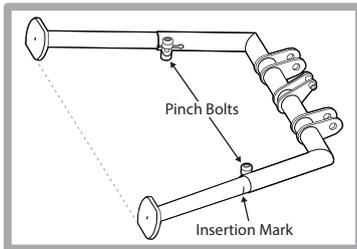

Figure 1
1. Secure the frame in an upright position. Install kickstand legs into kickstand frame. Note: Left and right kickstand legs are unique so that their feet sit flat on the ground when the kickstand is deployed. For initial setup, insert kickstand legs to third insertion mark so only one mark remains visible (Figure 1). Set edge of kickstand feet on a flat surface and rotate them so the feet are parallel with one another and flush with surface. To secure setup, tighten pinch bolts (using a 5mm hex wrench) to 7Nm.